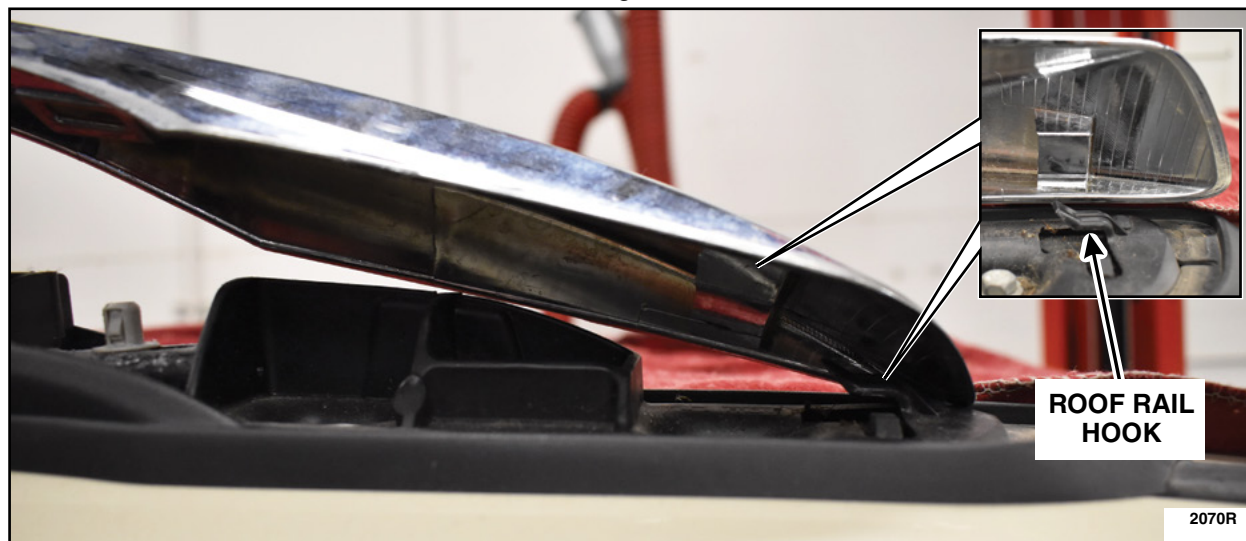

FIGURE 13
13. Install the roof rail cover starting at the front of the vehicle, slide the roof rail cover forward to engage the hook then press down to engage the clips. If warping or broken roof rail cover retaining towers were found, install the *new* roof rail cover. See Figure 13.